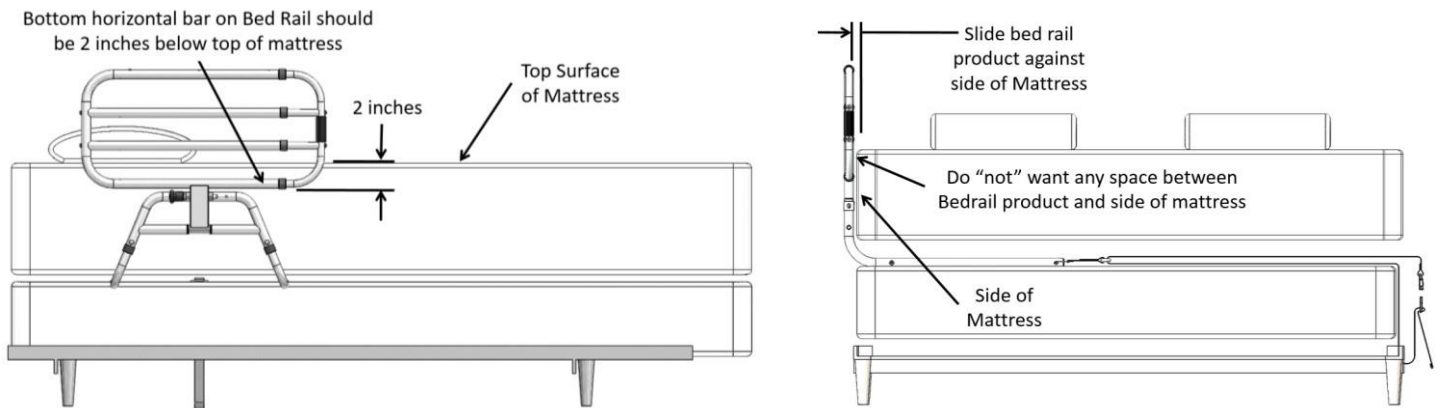

FIGURE 6
6. **WARNING:** For safety purposes, it is important that both conditions shown below are followed. First, the bottom horizontal bar on the bed rail must be 2 inches below the top surface of the mattress. Second, no space should exist between bed rail and side of mattress. Unbuckle strap and loop strap around bed frame and re-buckle. Tighten strap to secure Handle Assembly against the side of the mattress as seen in Figure 6.